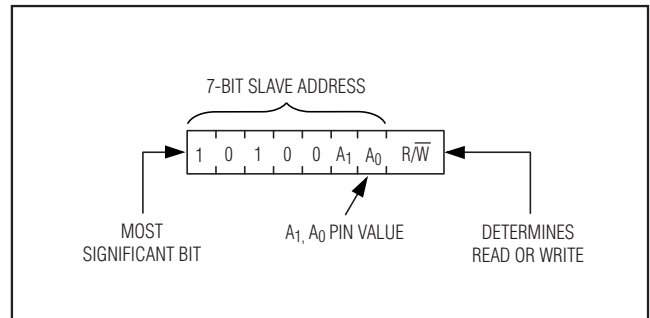

Figure 10. DS3882's Slave Address Byte
**Slave Address Byte:** Each slave on the I2C bus responds to a slave addressing byte sent immediately following a start condition. The slave address byte (Figure 10) contains the slave address in the most significant seven bits and the  $R/\overline{W}$  bit in the least significant bit. The DS3882's slave address is 10100A1A00 (binary), where A0 and A1 are the values of the address pins (A0 and A1). The address pin allows the device to respond to one of four possible slave addresses. By writing the correct slave address with  $R/\overline{W}$  = 0, the master indicates it will write data to the slave. If  $R/\overline{W}$  = 1, the master will read data from the slave. If an incorrect slave address is written, the DS3882 will assume the master is communicating with another I2C device and ignore the communications until the next start condition is sent.